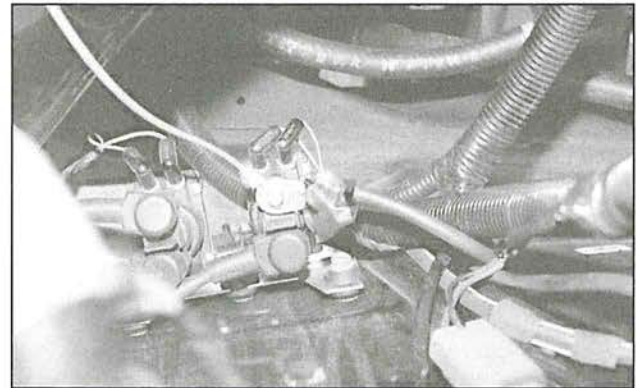

Fig. 25
- a. Locate the two intake manifold grid heater power solenoids. The solenoids for all models are located on the left inner fender (see Fig. 25). Each solenoid has a green wire with a black stripe connected to one of its terminal posts. Remove the green/black wire from one of the solenoids (either solenoid may be used). Next remove the small hex nut from the post.